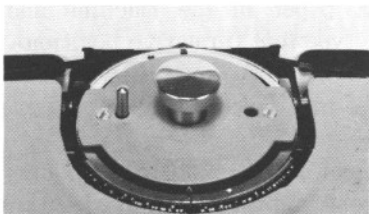

Figure 20
In front and at each side of the anvil (22) are metal strips called **alignment guides** (38) (Figure 20). The base line of characters, being typed, must lie on the top edge of these guides*. This enables the guides to be used to align copy vertically and to straighten copy horizontally in the machine. For accuracy the same guide (usually the left guide) should always be used.